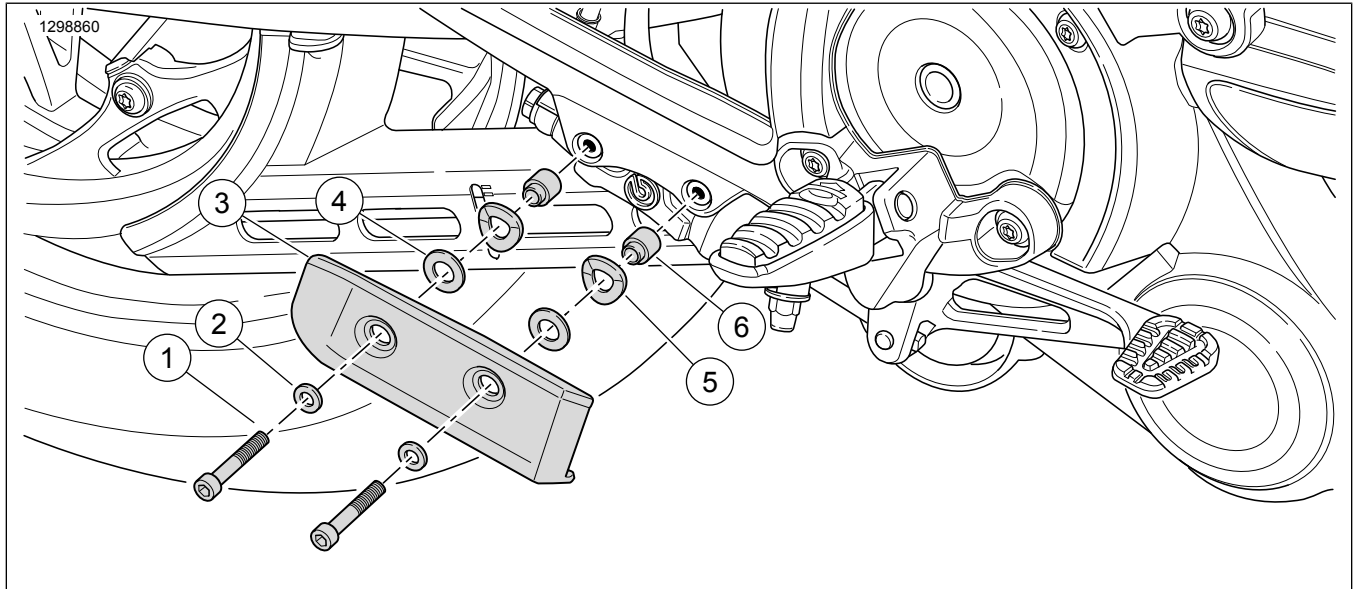

Figure 1. Kit Contents: Rear Brake Reservoir Cover Components
1. See Figure 1. Install assembled cover to rear brake cylinder using **new** screws (1). Tighten.